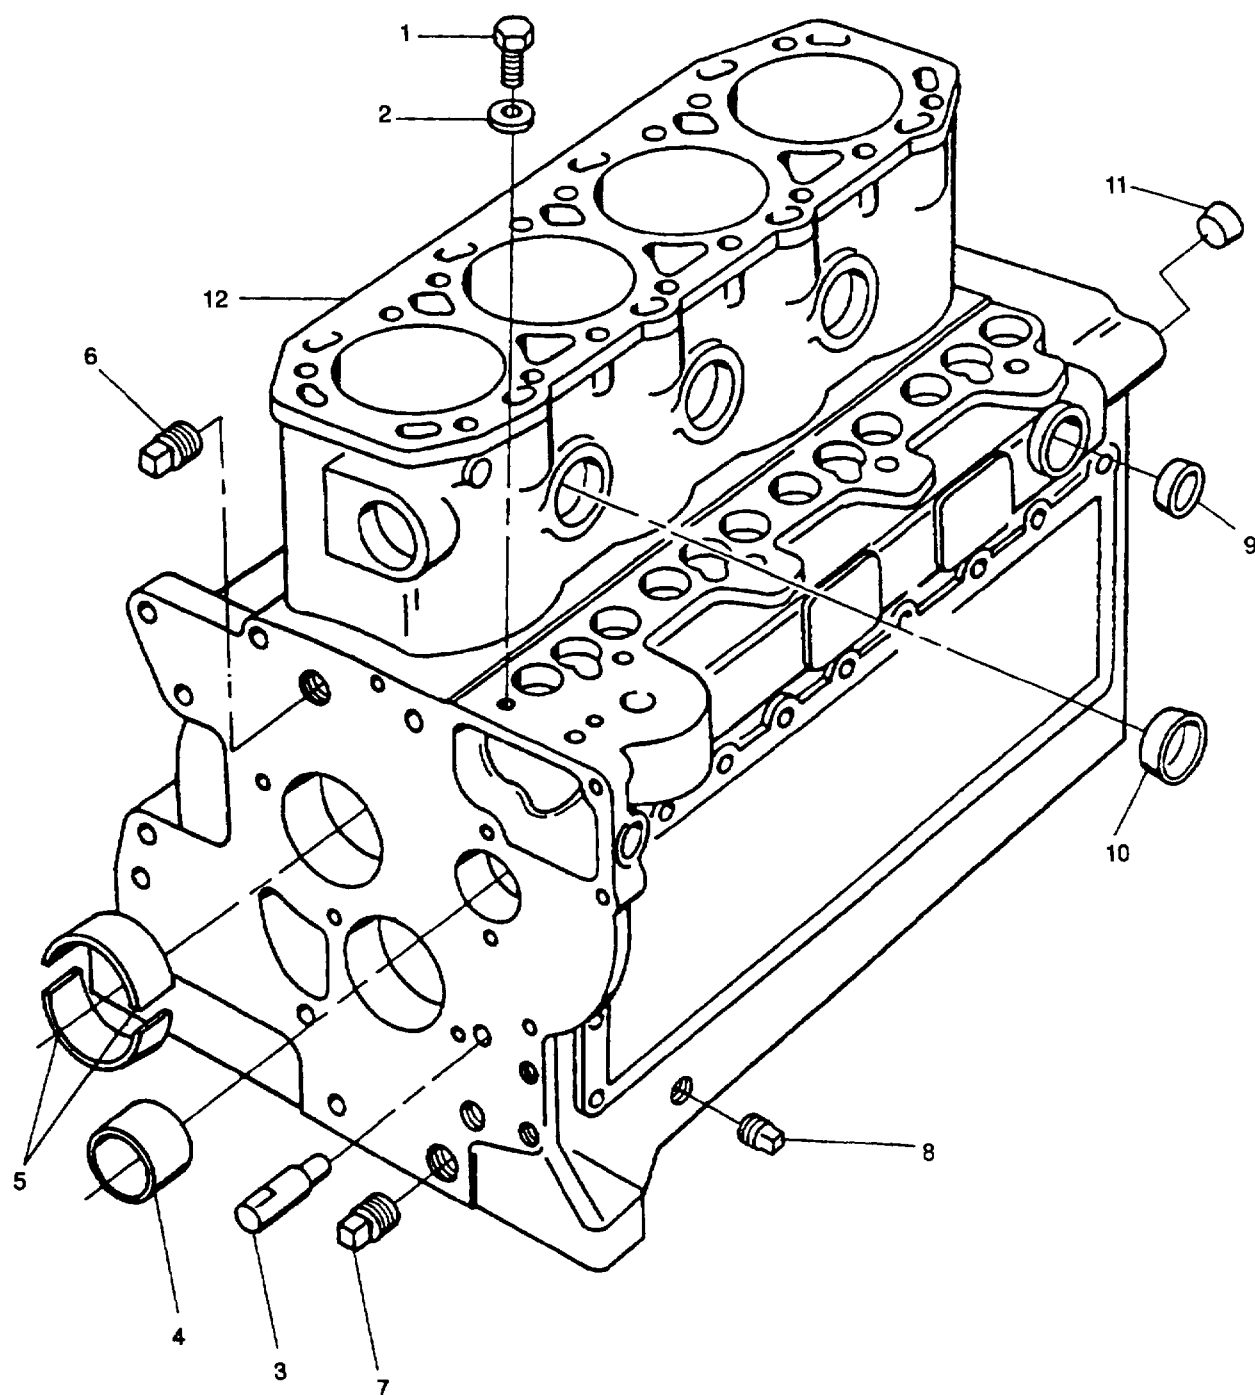

FIGURE 3-43. Crankcase Assembly
- j. Heat crankshaft pinion gear (8) to a straw yellow color (460°F) (238°C) and install it on crankshaft ensuring that '0', mark is facing outward.
- a. If damaged, remove two capscrews (1, FIGURE 3-43) and copper washers (2).
- b. If damaged, remove two pivot supports (3).
- c. Using camshaft bushing tool (317-50106), remove camshaft bushing (4) as follows:
- (1) Install guide into bushing (4) from inside crankcase.
- (2) Install slide hammer onto guide threads.
- (3) Use slide hammer to remove bushing (4).
- d. Using main bearing tool (317-50111), remove crankshaft main bearing (5) as follows:
- (2) Install bolt and dolly into bearing (5, FIGURE 3-43) from oil seal side (crankcase outside face).
- (3) Install bridge over bolt threads until two legs are against crankcase.
- (4) Install spacer onto bolt.
- (5) Use a suitable wrench to tighten nut until bearing shells are withdrawn.
- (2) Place new bearing shells (5, FIGURE 3-43) into collar ensuring that one oil feed hole is in line with pilot pin and end of shell is in line with mark on collar face.
- (3) Place driver onto collar with cutout on driver located over collar pilot pin.
- (4) Push driver sufficiently until bearings come out other side of collar to provide a lead in.
- (5) Install assembly into crankcase from gear end with pilot pin in line with the oil feed hole in crankcase.
- (6) Place bolt through assembly.
- (7) Install bridge, spacer, and nut onto bolt.
- (8) Tighten nut until driver is against face of collar.
- (9) Remove tool.
- (10) Check that oil hole in bearing shell (5) is correctly aligned with oil feed hole in crankcase.
- h. Using camshaft bushing tool (317-50106), install camshaft bushing (4) as follows:
- a. Clean block (12, FIGURE 3-43) thoroughly using dry cleaning solvent (P-D-680), pressure steam, or a hot tank.